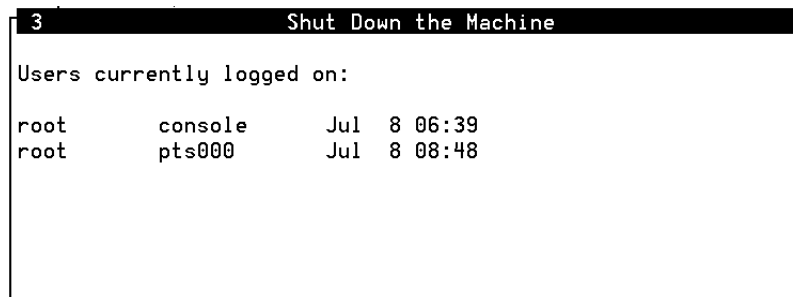

Figure 1. Example of an INTUITY CONVERSANT Window Showing Information
- The INTUITY CONVERSANT system displays *windows*, *screens*, and *menus*. Windows and screens both show and request system information (Figure 1 through Figure 4). Menus (Figure 5) present options from which you can choose to view another menu, or a screen or window.